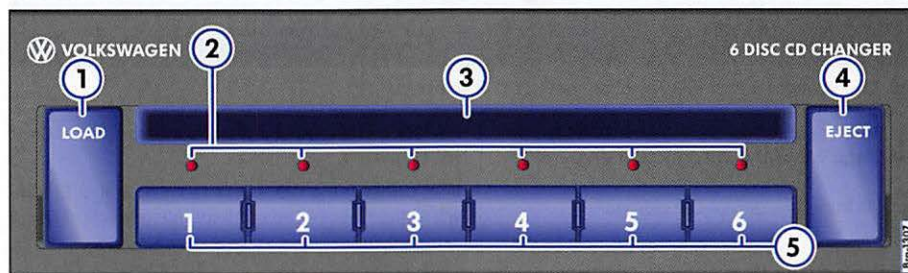

Fig. 25 External CD changer in the passenger side storage compartment or in the front center armrest.
- Press the **LOAD** button. The LED  ⇒ fig. 25  above the next available CD slot flashes slowly.